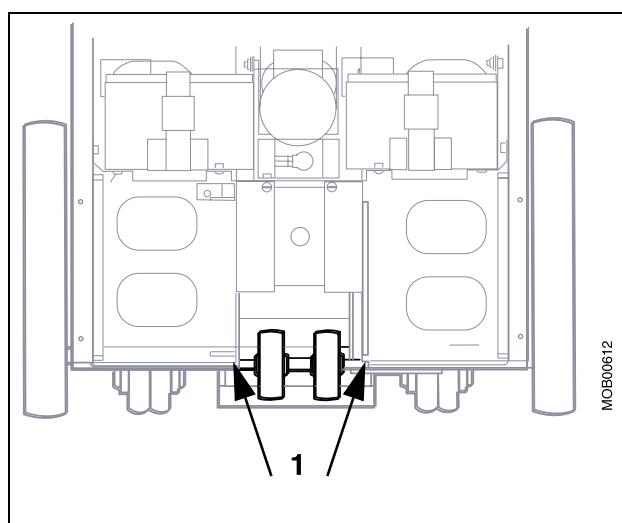

Fig. 62: Castor
- Remove the snap rings (Pos. 1/Fig. 62 / p. 71).